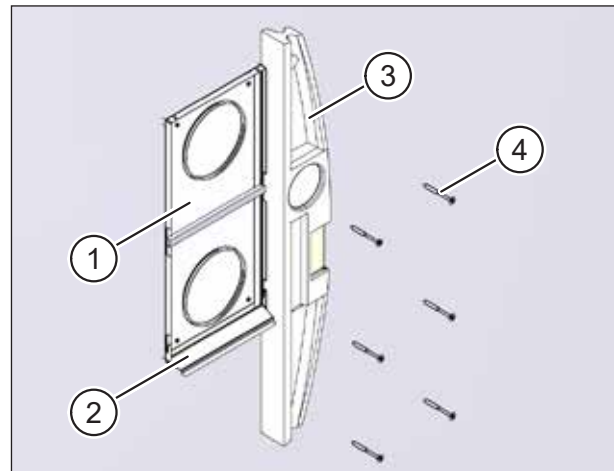

Fig. 18: Fixing the base plate
- ▶ Carefully position the base plate (item 1 in Fig. 18) correctly on the ventilation pipes. Be careful not to damage the seals.
- ▶ Make sure that the drip edge (item 2 in Fig. 18) is pointing downwards.
- ▶ Use a spirit level to align the base plate vertically (see item 3 in Fig. 18).
- ▶ Use the six screws provided to fix the base plate (item 4 in Fig. 18).